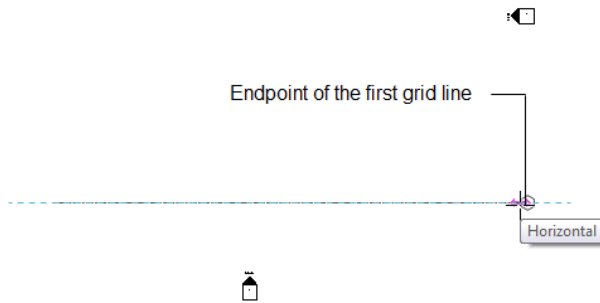

Figure 3-57 The location for the endpoint of the first horizontal grid line
- On clicking, a grid line emerges. Move the cursor horizontally to the right and click when it reaches at a point below the **East** elevation arrow; refer to Figure 3-57 for location.